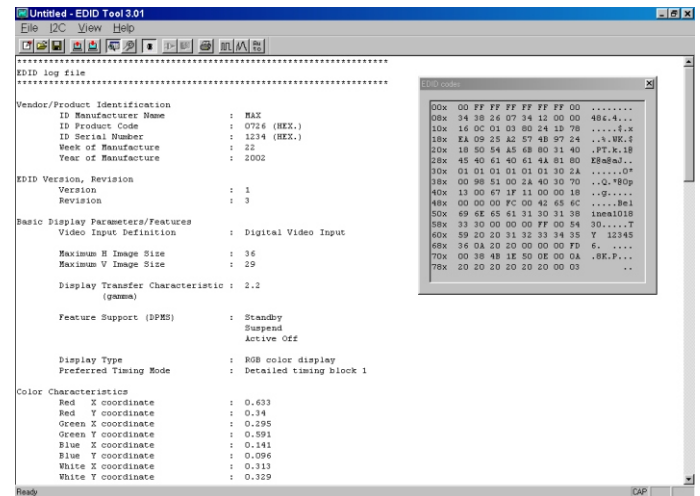

Fig. 32
- Click icon (Read EDID function) to read DDC EDID data from monitor. The EDID codes will display on screen as shown in Fig. 32.